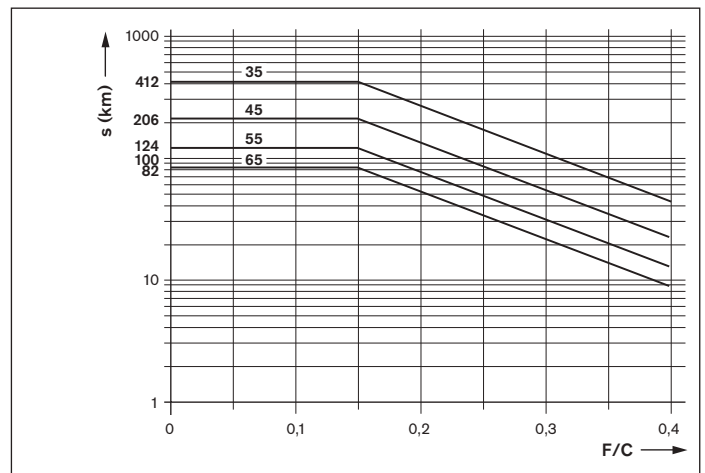

Fig. 2: Relubrication interval
- Apply the minimum quantity according to Table 4 to the lube port until the relubrication interval as specified (in Fig. 2) has been reached.
- Apply the minimum quantity according to Table 4 per lube port until the relubrication interval as specified (in Fig. 2) has been reached. Calculate the required pulse count and lubricant cycle time in the same way as for relubrication (normal stroke).
Notes: The required pulse count is the quotient (as a whole number) of the minimum relubrication quantity according to Table 4 and the selected piston distributor size according to Table 5. The smallest permissible piston distributor size is independent of the mounting orientation. The lubricant cycle time as per Formula 1 can then be obtained by dividing the relubrication interval (according to Fig. 2) by the calculated pulse count (see design calculation example).